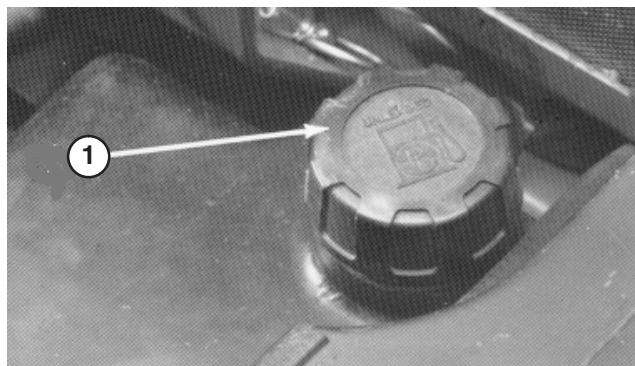

Figure 24
1. Tip seat forward and prop it with the support rod so it cannot fall accidentally. Using a clean rag, clean area around fuel tank cap (Fig. 24).